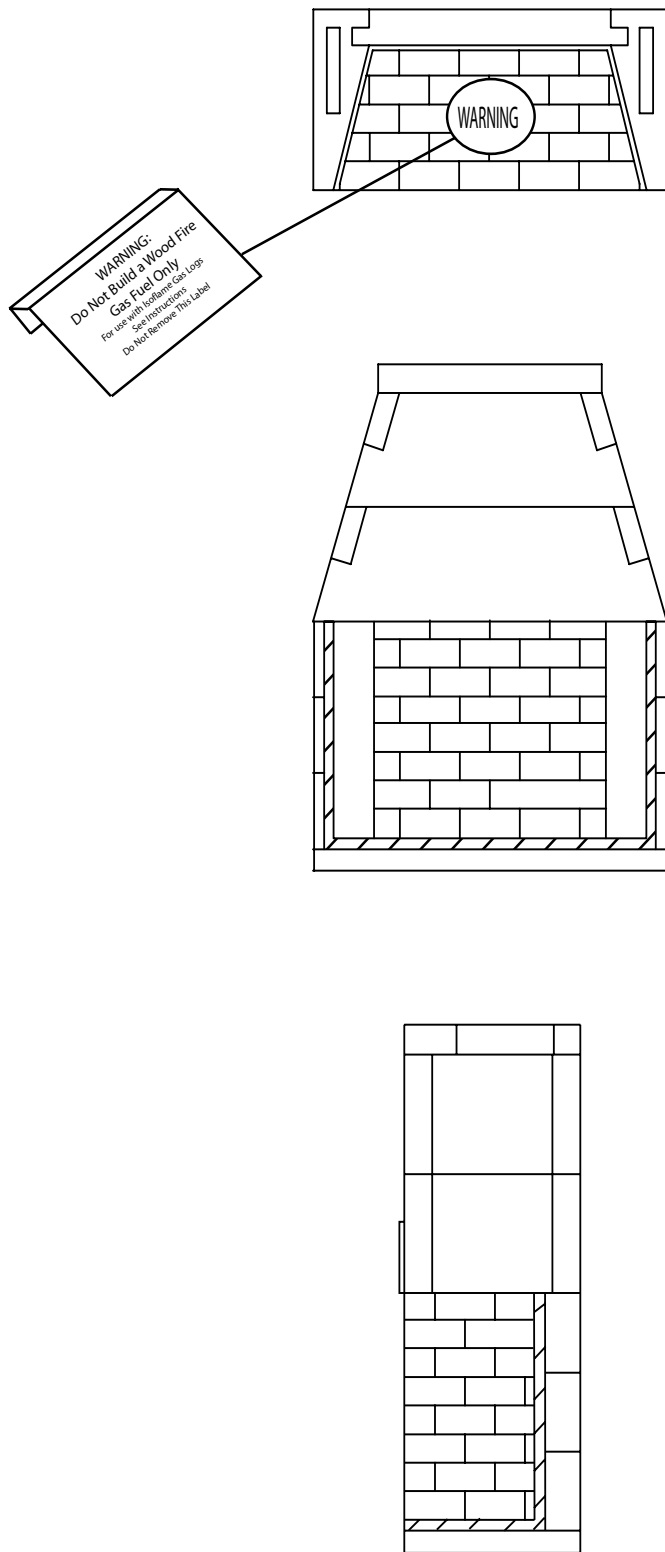

Figure 16
Step 3: Apply C-clamp warning label to center floor brick prior to mortar, ensuring verbiage is legible from front of firebox. (Figure 16)